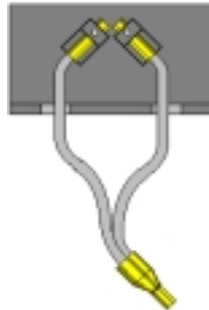

Figure 89 Inserting the fibre end
15. Loosen the grub screw in the right fibre holder and insert the free fibre end, as shown in Figure 89.